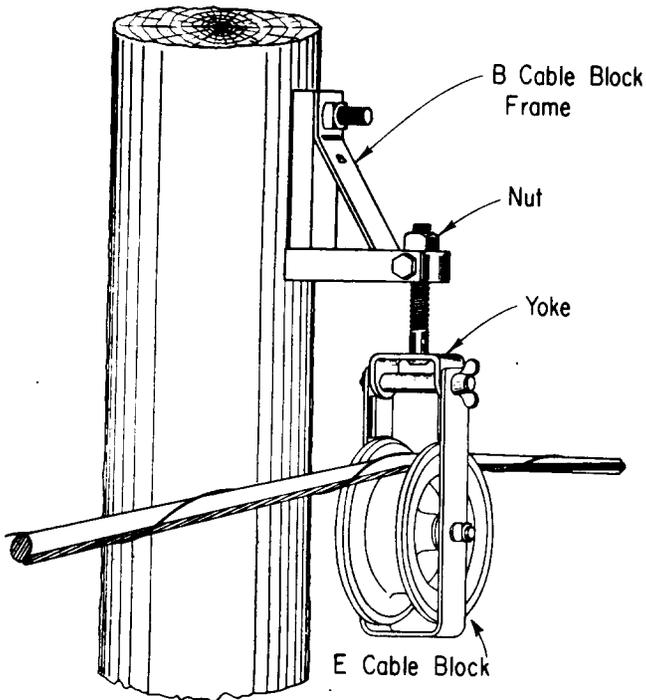

Fig. 8—B Cable Block Frame (With E Cable Block Installed)
6.02 The *B cable block frame* (Fig. 8) is used at the first and last poles of a pull.